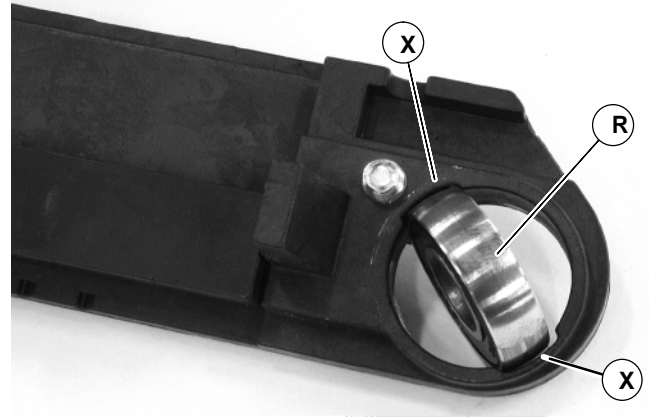

Figure 17
4. On both head plates, insert bearings (R of Figure 17) into slot (X). Twist bearing to fit into bearing enclosure.